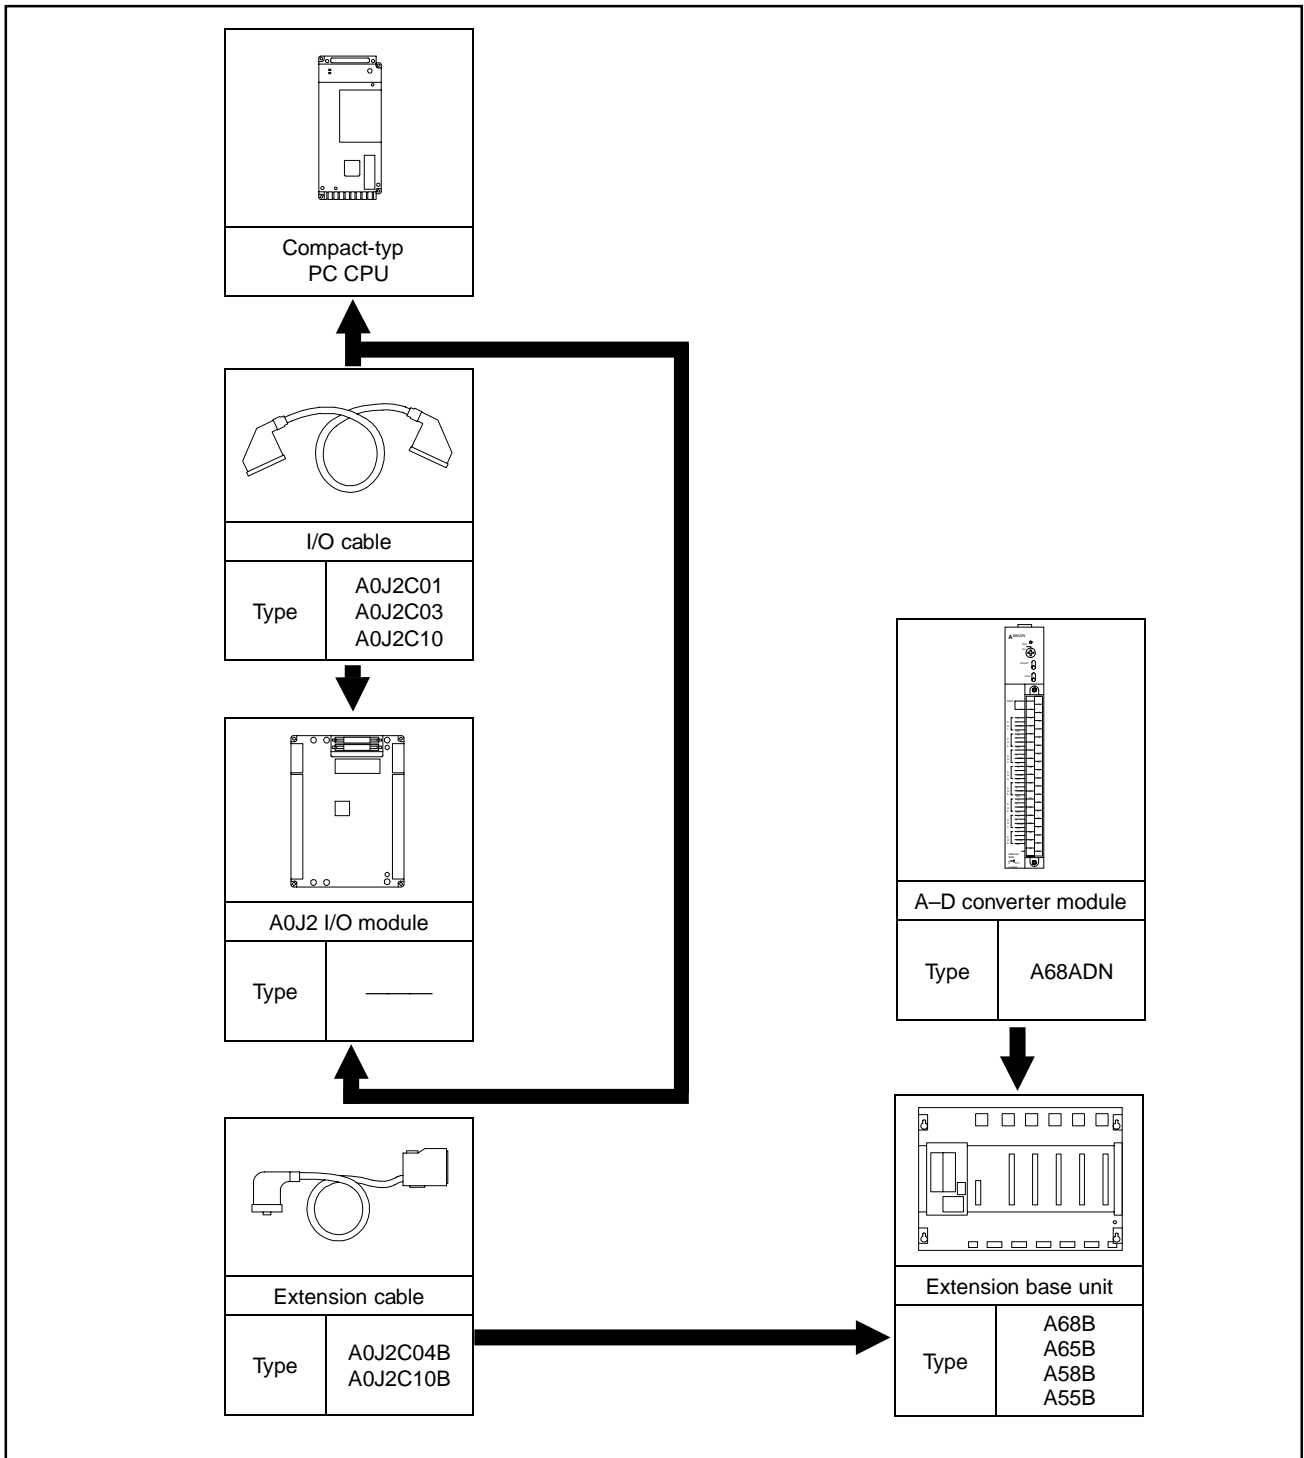

Fig. 2.2 Overall Configuration Using a Compact-Type PC CPU
(2) Figure 2.2 shows the overall system configuration when the A68ADN is used with a compact-type PC CPU